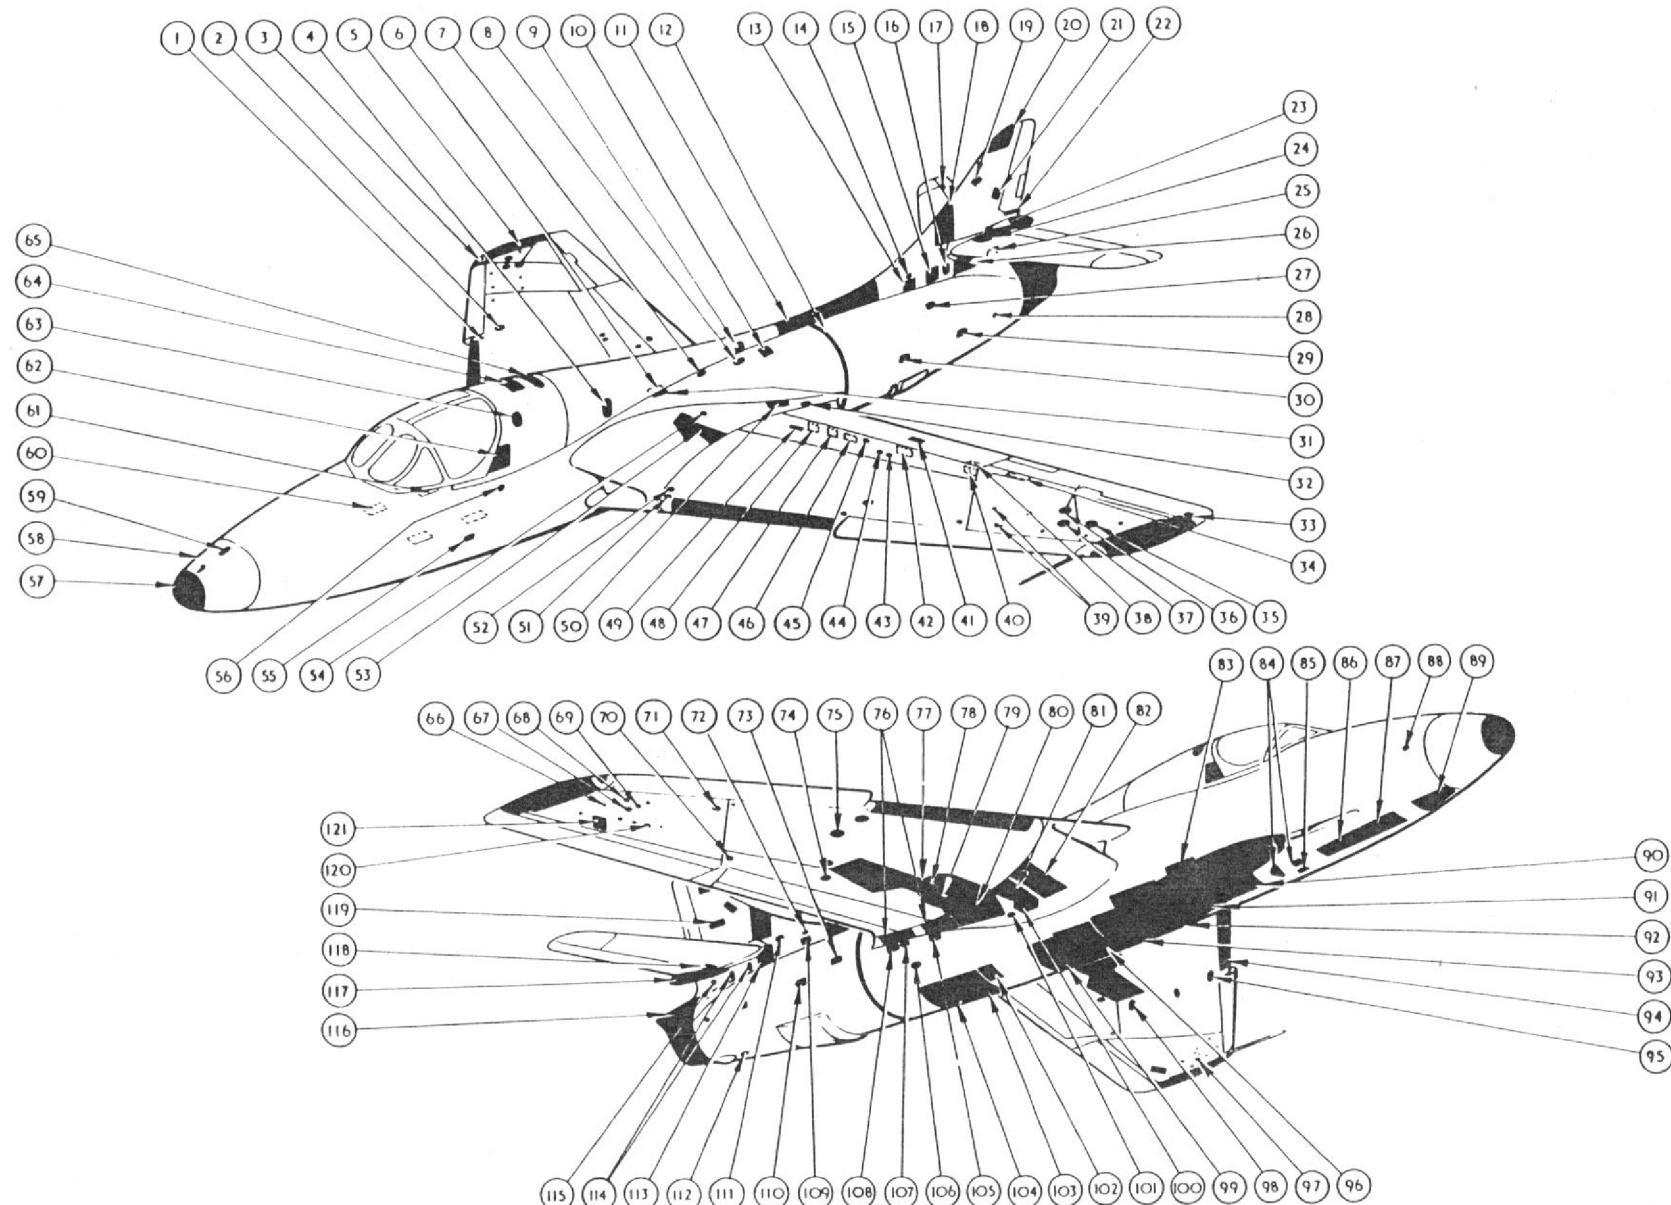

Fig.3 Access panels
KEY TO FIG.3(ACCESS PANELS)
7. The positions of the access doors and removable panels are shown in fig.3, the components to which they give access being given in the key. When handling the doors and panels, care should be taken to ensure that they are not damaged or distorted in any way. When re-fitting them, ensure that they fit flush with the surrounding surface and that they are secure and effectively locked. Screws removed from access panels must be replaced by screws of the same length, after first ensuring that fouling has not already taken place, otherwise damage to components, pipe lines or structure in the vicinity of the panel may occur.